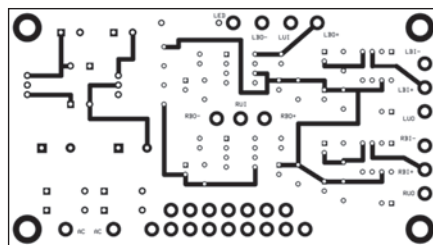

FIGURE 4: Top traces.
- A trace map of the top side of the board as shown in **Fig. 4**.